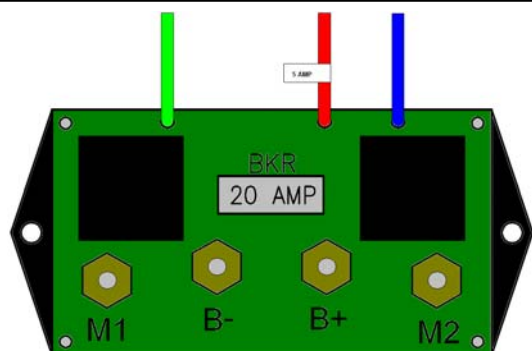
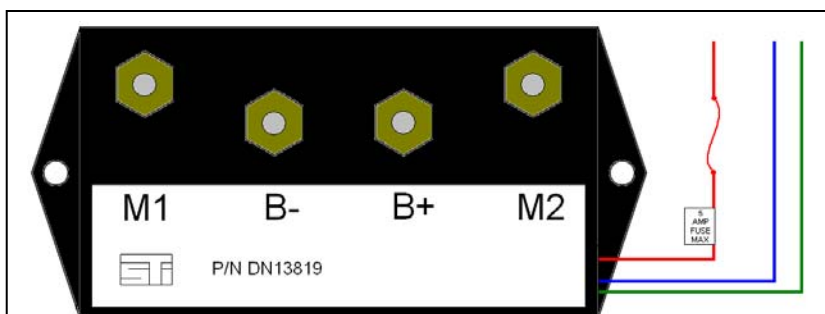

Figure 1 *DN13003*
Figure 2 *DN13819*
- Waterproof relay pack # DN13003 (**FIGURE 1**) is no longer available. It is currently being replaced with **NON-WATERPROOF** relay pack # DN13819 (**FIGURE 2**).